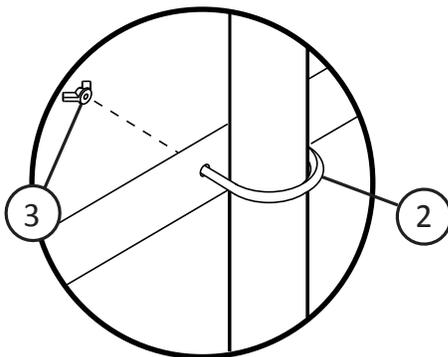

Fig. 3: Viewer Assembly
- **Viewer column and hardware** - (Fig. 3) Viewer column can be attached to either side of the table using the two U-bolts (Ref. 2) and four wing nuts (Ref. 3). Position the viewer column to the desired height and lock into position.